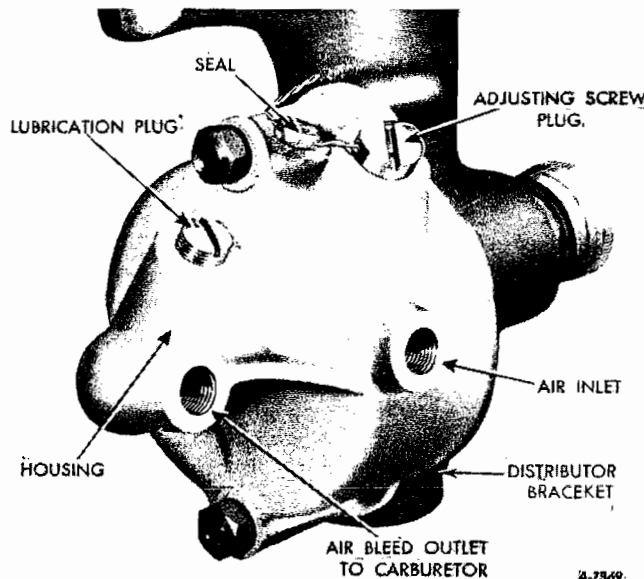

Fig. 68
2. Remove the adjusting hole plug seal located at the side of the governor housing. (Do not break the pipe connection seal). Remove the adjusting hole plug. (Figs. 68, 69).